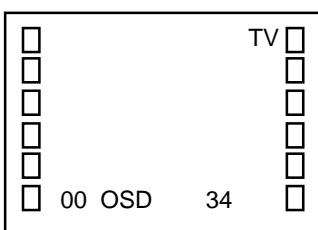

Fig. 1-1
1. In the condition of NO indication on the screen. Press the VOL. DOWN button on the set and the Channel button (9) on the remote control for more than 1 second to appear the adjustment mode on the screen as shown in **Fig. 1-1**.
2. Activate the adjustment mode display of **Fig. 1-1** and press the channel button (01) on the remote control to select "CUT OFF".
4. Activate the adjustment mode display of **Fig. 1-1** and press the channel button (12) on the remote control to select "R. BIAS".
3. Activate the adjustment mode display of **Fig. 1-1** and press the channel button (03) on the remote control to select "H. PHAS".